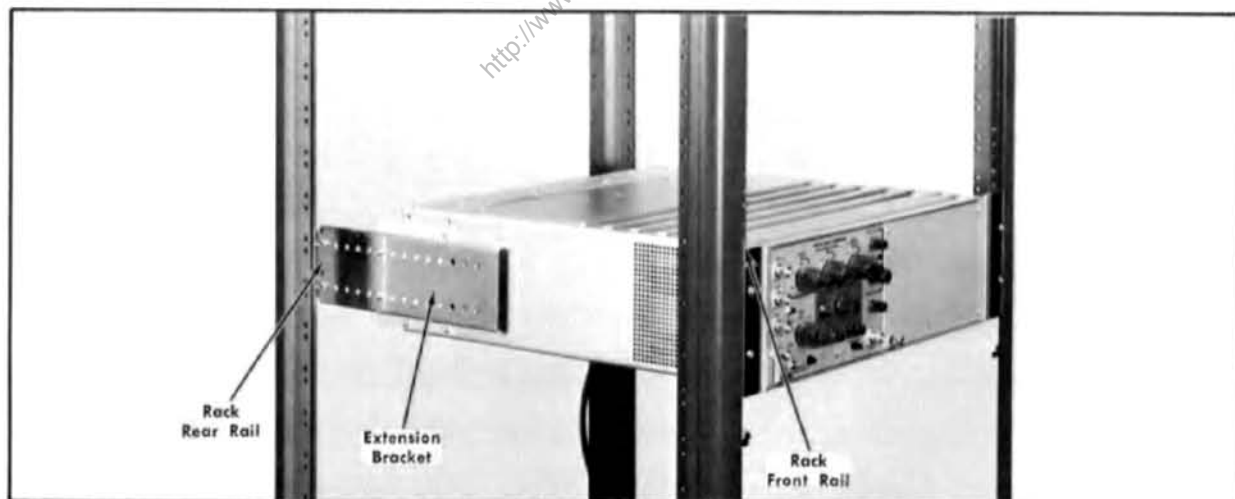

Fig. 9-1. Rack Adapter mounted in rack.
4. Connect the rear mounting brackets to the bracket extensions with hexagonal head screws and a bar-nuts. (see Fig. 9-1). Each screw-nut assembly should be arranged so that a screw head and a washer are on the instrument side of the rear mounting bracket.